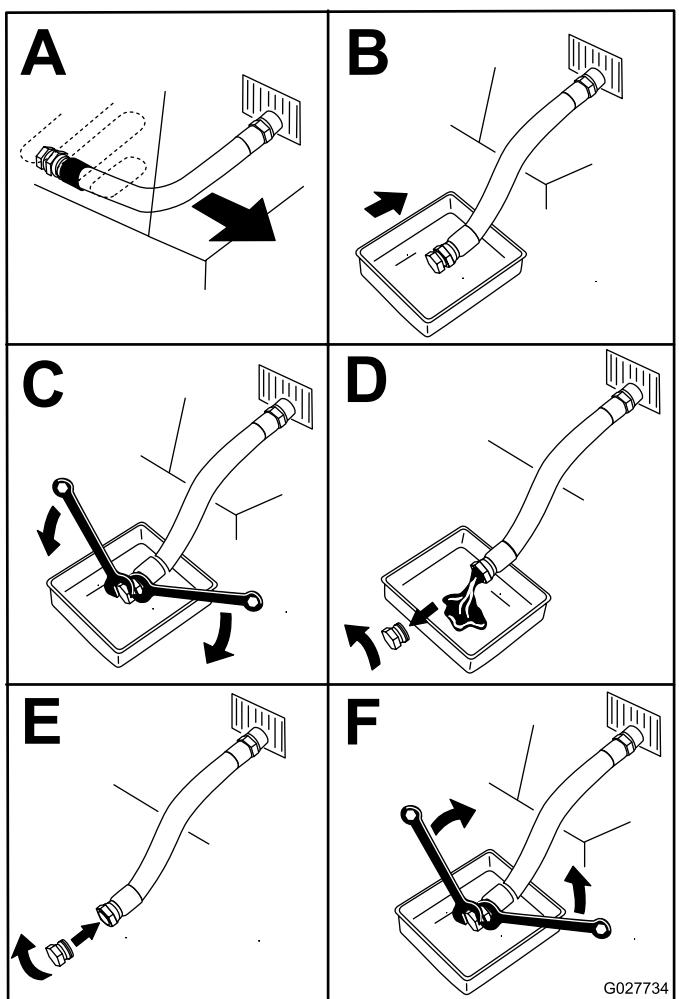

Figure 60
- Drain the oil from the engine (Figure 60).